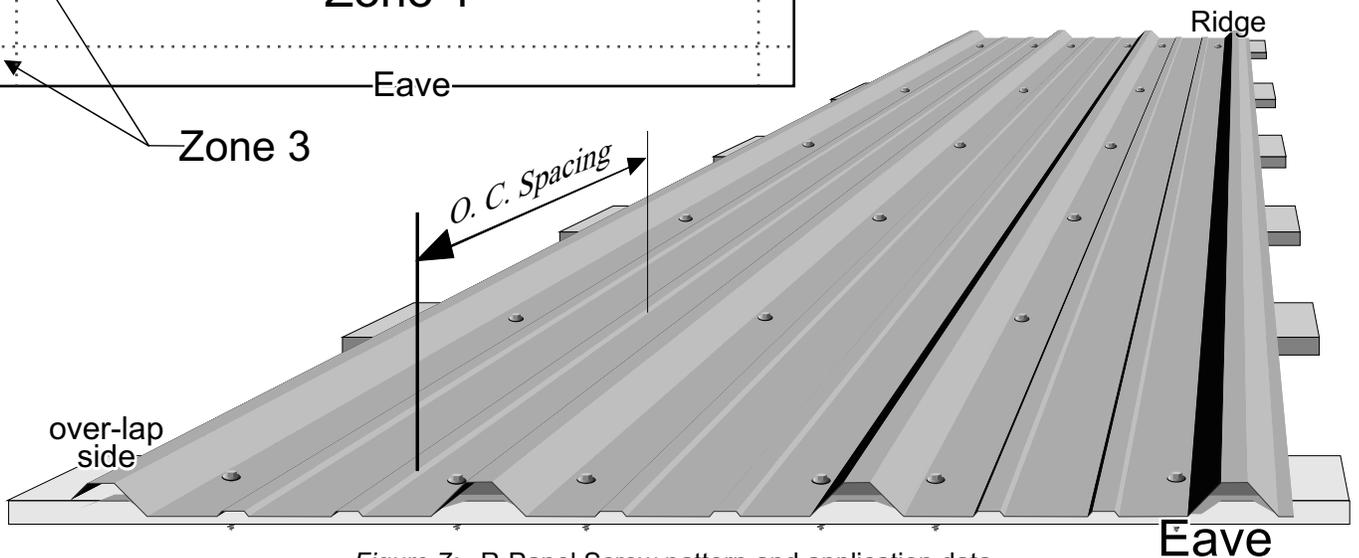

Figure 7: R-Panel Screw pattern and application data.
**R-Panel requires a minimum pitch of 1/12.** This means that the minimum roof slope required for all panels is 1 inches of rise per foot. As a general principle, the less steep the roof, the more necessary the use of ridge closures, and the more necessary also that butyl sealant be used at all side-laps to prevent water from siphoning over the ribs (see *Figure 7* on page 6). Consult our representative for recommendations for your particular roof pitch, and about roofing options if you have less than a 1/12 pitch.
Panel installation should begin at the gable end of the roof opposite the prevailing rain-bearing wind (this will provide added assurance against wind-driven rain being forced under the laps). Measure one full panel width in (approx. 38") from the roof edge. At this point chalk a line from ridge to eave (**avoid getting chalk on panels— it may discolor them!**). Place the leading edge of the first panel along this line. It is extremely important that this panel be laid square to the eave and ridge so that the remaining panels will line up square on the roof frame. It is wise to have a person at the eave and at the ridge to ensure that the proper panel coverage is being maintained across the roof. Also be sure that the panels are properly side-lapped (see *fig. 7* on page 6).